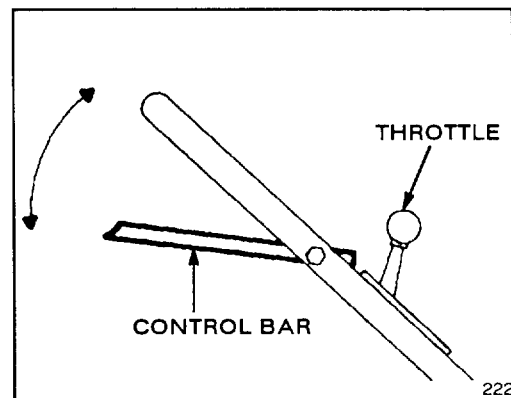
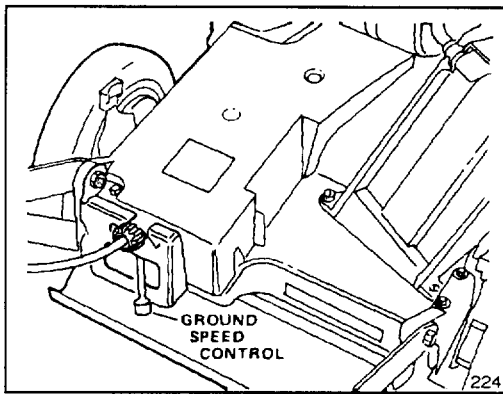

Figure 5
Figure 6
4. **STARTING**—Move throttle to **CHOKE** (Fig. 5). Pull fingertip starter out slowly until positive engagement results; then pull vigorously to start the engine. Regulate throttle as desired when engine starts (Fig. 5).
selection (Fig. 6). Squeeze control bar against handle to drive. Ground speed varies, depending on space between control bar and handle (Fig. 5).